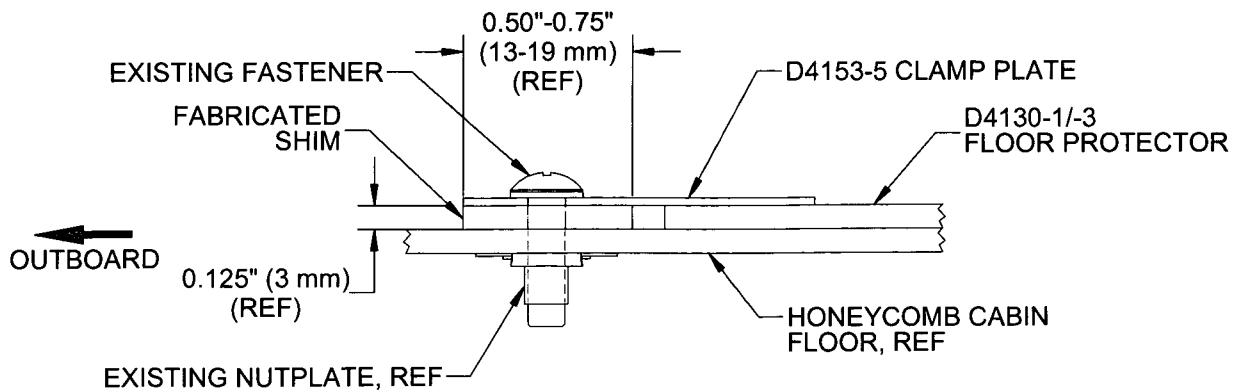

FIGURE 1 - D4153-5 CLAMP PLATE INSTALLATION (OPTION 1)
- 2.1.1 Fabricate a shim from 6061-T6 (or 2024-T3) Aluminum 0.50" to 0.75" (13 to 19 mm) wide x full length of D4153-5 Clamp Plate with thickness required to be level with D4130-1/3 Floor Protector as shown in Figure 1 of this Service Instruction.
- 2.1.3 Install D4153-5 Clamp Plates with the shims as shown in Figure 1 of this Service Instruction.